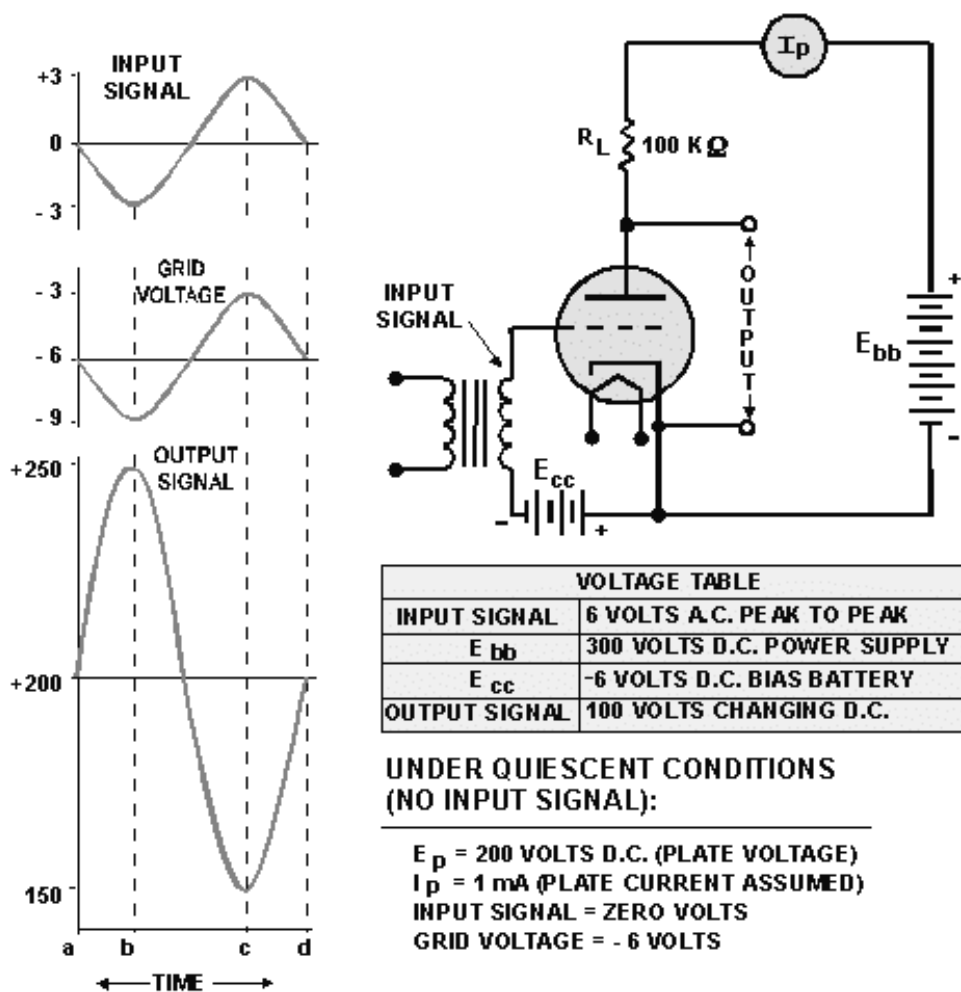

Figure 1-19.—Triode operation.
The circuit in figure 1-19 brings together all of the essential components of a triode amplifier. Before analyzing the circuit, however, we need to define the term **QUIESCENT**.
Simply, quiescent describes circuit conditions when the tube is not amplifying. The tube has no output signal and is in a kind of standby, waiting condition. Now let's go on to figure 1-19. With no input signal, under quiescent conditions, assume that 1 milliamperes of current flows through the tube, cathode to plate. This current (I_p) will flow through R_L (load resistor) to the positive terminal of the battery. The current flowing through R_L causes a voltage drop (IR) across R_L equal to:
These values are shown on the waveforms as time a in figure 1-19.
Before going on to the next section, there is one more thing of which you should be aware. Look again at the waveforms of figure 1-19. Notice that the output voltage of the amplifier is 180° out of phase with the input voltage. You will find that this polarity inversion is a characteristic of any amplifier in which the output is taken between the cathode and the plate. This is normal and should not confuse you when you troubleshoot or work with this type of circuit.
- Q18. A triode amplifier similar to the one shown in figure 1-19 has an E_{bb} -350 volts dc. The plate-load resistor is 50 k Ω . Under quiescent conditions, 1.5 milliamperes of current conducts through the tube. What will be the plate voltage (E_p) under quiescent conditions?*